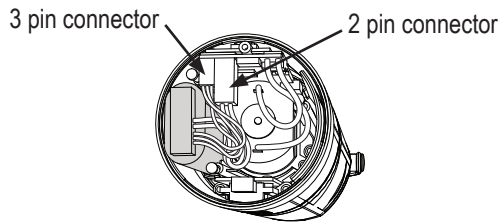

Figure 2
10. Reconnect 3 pin connector, reconnect larger 2 pin connector. See Figure 2.